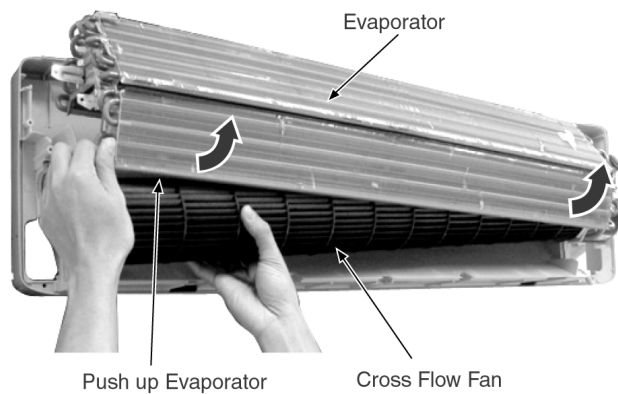

Fig. 9
7. Push up the Evaporator and pull out the Cross Flow Fan from shaft. By then, Fan Motor can be taken out. (Fig. 9).